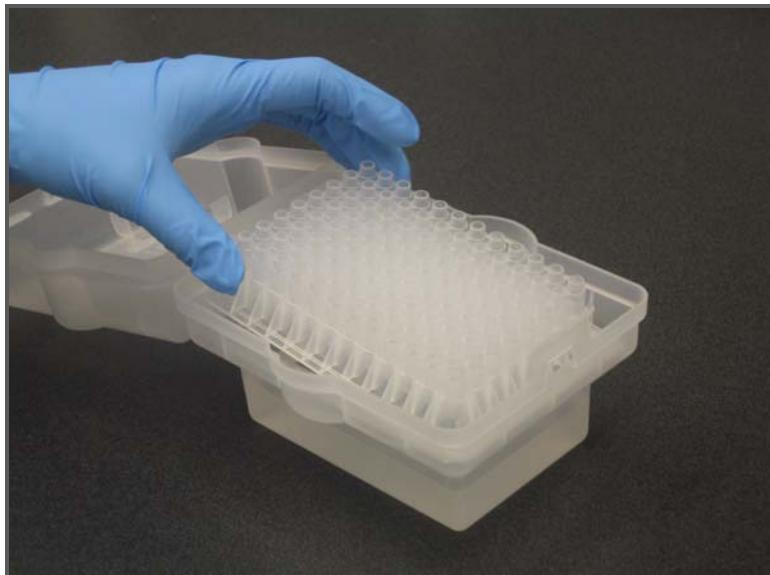

Figure 100 Add Funnel Plate
5. Add the funnel plate to the deep reservoir (Figure 100).